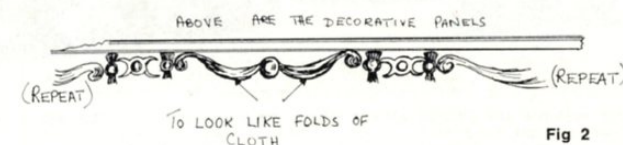

Fig 2
- (3) The lower edge of the decorated panels along the hull has a repetitive pattern carved upon it (not plain as per model)—see Fig 2.